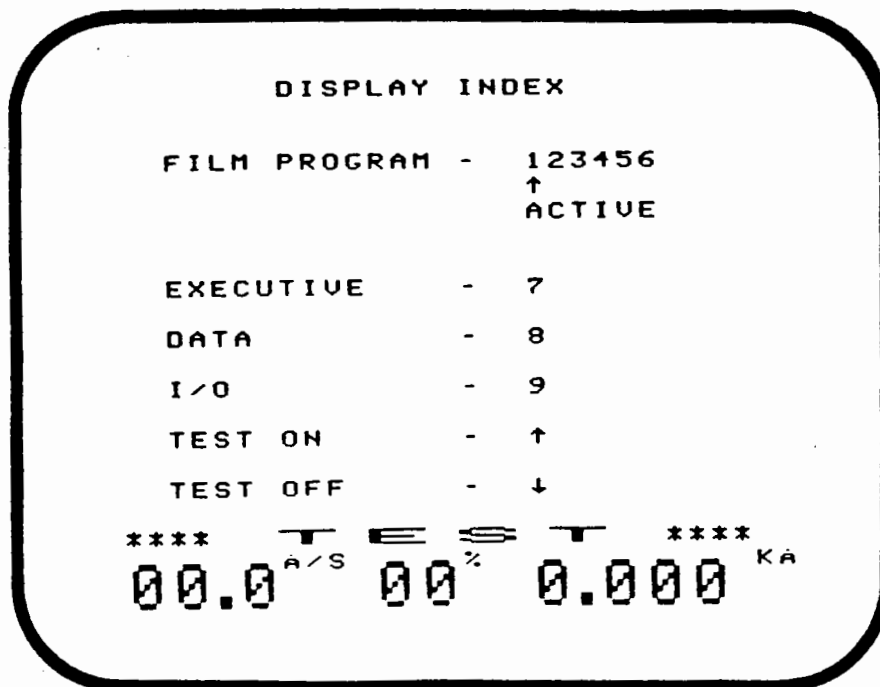

Fig. 2-2 Initial Display Index
Display Index (Fig. 2-2)
3. After a 10-15 second warm-up, check to see that the Display Index appears (Fig. 2-2).